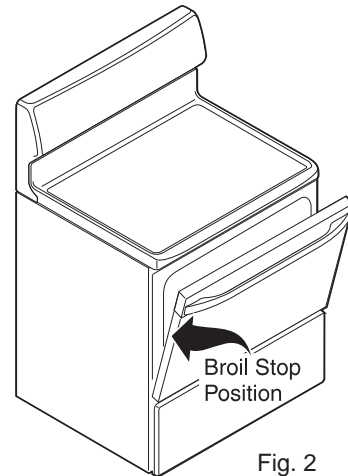

Fig. 2
6. Place the broiler pan and insert on the oven rack (if equipped). **Open the oven door to the broil stop position when broiling** (See Fig 2).
2. Pull the door hinge locks on both left and right door hinges down from the oven frame completely towards the oven door (See Fig. 2). A tool such as a small flat-blade screwdriver may be required.
4. Push the door hinge locks up towards and into the oven frame on both left and right oven door hinges (See Fig. 2) to the locked position.